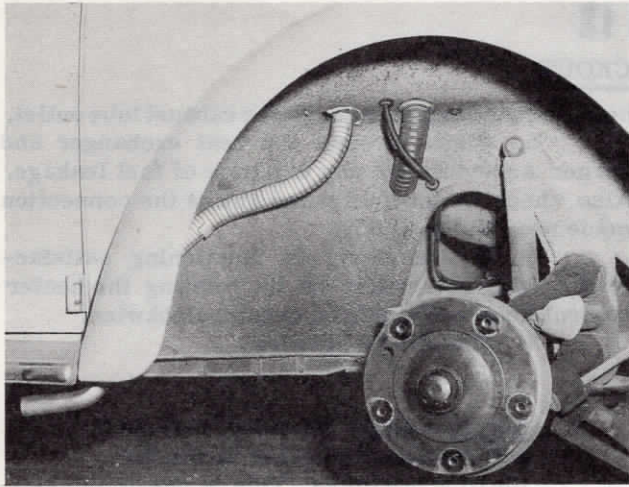

Figure 26 - Sedan 1961 through 1967
4. Route the flexible tube to the rear of the wheelwell as high and as far back as possible. Secure flexible tubing to the wheelwell with bracket provided. (See Figures 26 through 29).